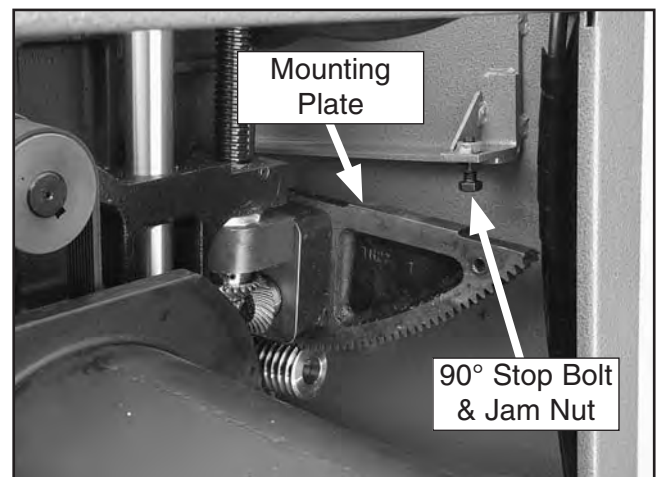

Figure 115. 90° stop bolt and jam nut.
5. Open the motor access cover, loosen the jam nut shown in **Figures 115 & 116**, adjust the stop bolt up or down according to how far off the blade was from 90°, then repeat **Step 3** until the blade stops at 90°.